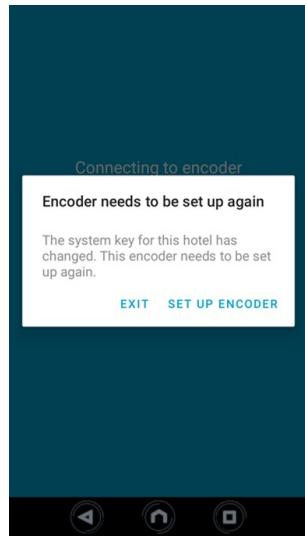

Figure 14
2. If a screen as in Figure 14 is shown instead of Figure 9, the encoder already belongs to another system. To set up the encoder so it gets the same system key as the Android device, click **Set up encoder** on the screen shown in Figure 14. The screen shown in Figure 9 will be shown; follow the procedure described in steps 8-12 of the *Encoder setup* section.